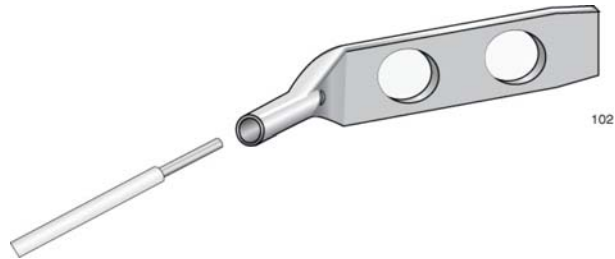

Figure 45. Attaching the Grounding Wire to the Grounding Lug
3. Insert one end of the grounding wire into the grounding lug, as shown in Figure 45, and use a crimping tool to secure the wire to the grounding lug.